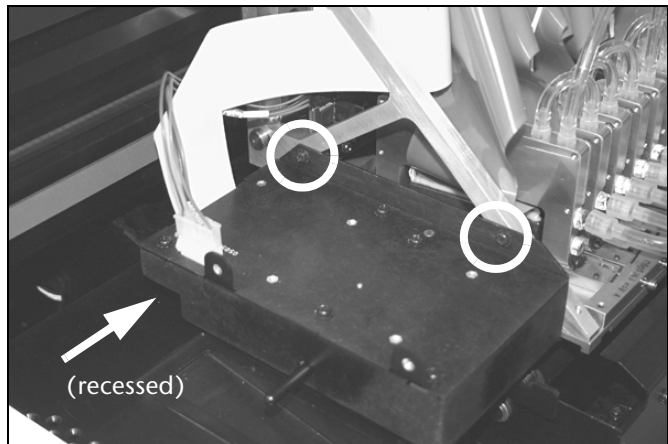

Fig. 5-8. Camera enclosure mounting screws
2. Loosen the three camera enclosure mounting screws (see Fig. 5-8 below).